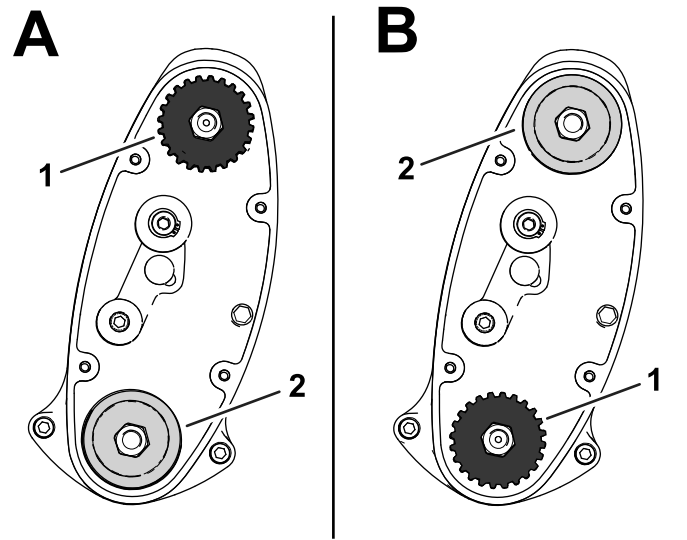

Figure 16
- **HIGH** position: "A" in Figure 16
- **Low** position: "B" in Figure 16